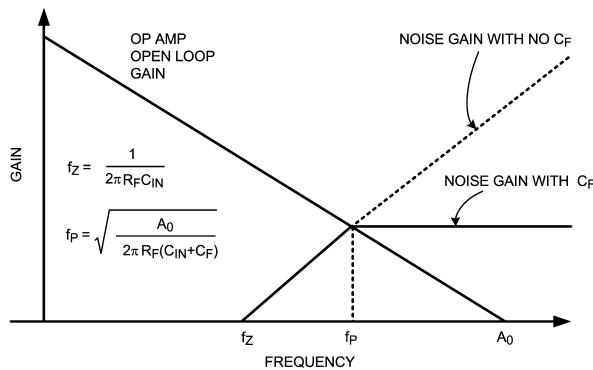

FIGURE 9. C_F Selection for Stability
An essential component for obtaining a maximally flat response is the feedback capacitor, C_F . The capacitance seen at the input of the amplifier, C_{IN} , combined with the feedback capacitor, R_F , generate a phase lag which causes gain-peaking and can destabilize the circuit. C_{IN} is usually just the sum of C_D and C_{CM} . The feedback capacitor C_F creates a pole, f_p in the noise gain of the circuit, which neutralizes the zero in the noise gain, f_z , created by the combination of R_F and C_{IN} . If properly positioned, the noise gain pole created by C_F can ensure that the slope of the gain remains at 20 dB/decade till the unity gain frequency of the amplifier is reached, thus ensuring stability. As shown in Figure 9, f_p is positioned such that it coincides with the point where the noise gain intersects the op amp's open loop gain. In this case, f_p is also the overall -3 dB frequency of the transimpedance amplifier. The value of C_F needed to make it so is given by Equation (3). A larger value of C_F causes excessive reduction of bandwidth, while a smaller value fails to prevent gain peaking and instability.